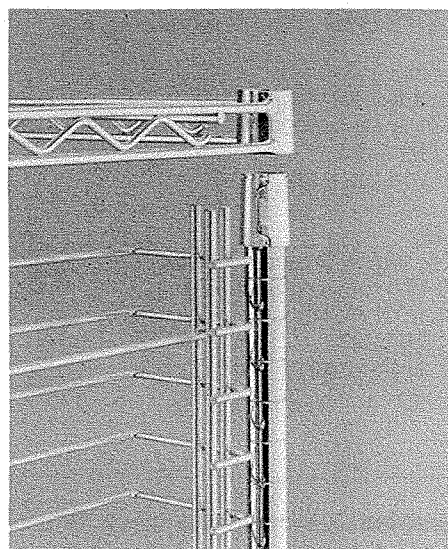

Fig. 7
10. Take the second frame and carefully fit it over the post tops being careful to interlock the frame with the slide while also fitting the corner collars of the shelf over the post tops. (Fig. 7). Once the correct interlock is started, tap the frame down until the groove in the sleeve is visible above the shelf collar.